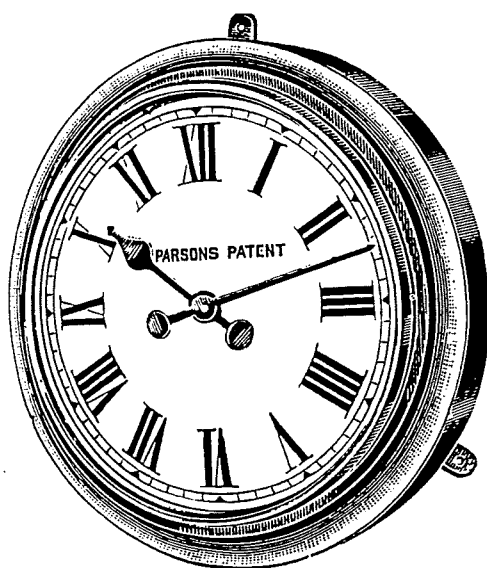

FIG. C138.
(39).—All Marine Impulse Clocks contain a Step-by-Step Mechanism similar to that illustrated at Fig. C9. When this is fixed in a case without exposed Terminals, two studs are provided at the bottom of the Clock front. These are illustrated clearly at Fig. C138.